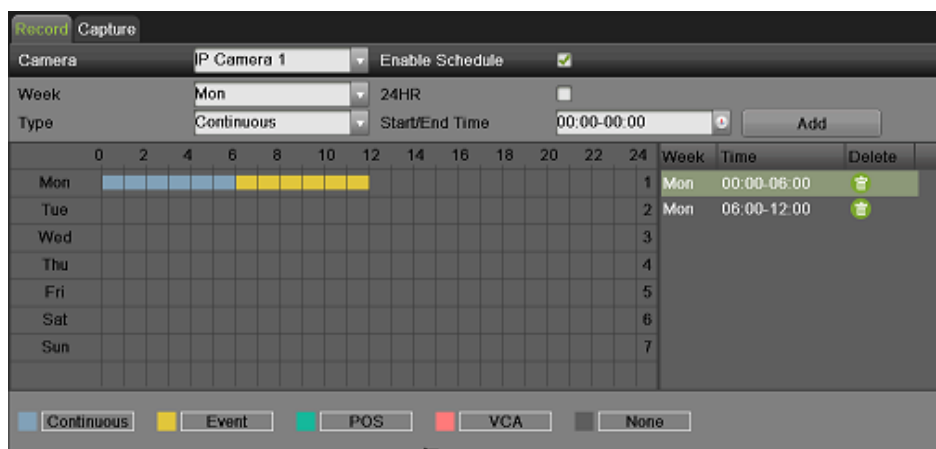

Figure 48 Record Schedule Configuration Example
- 4) Select the Add button to add time frame to schedule. The newly added time frame will appear in the schedule on the right. You can click  to delete the selected time period on the right. Continuous recordings are shown in blue on the schedule while event recordings are shown in yellow. An example of this can be seen in Figure 48.